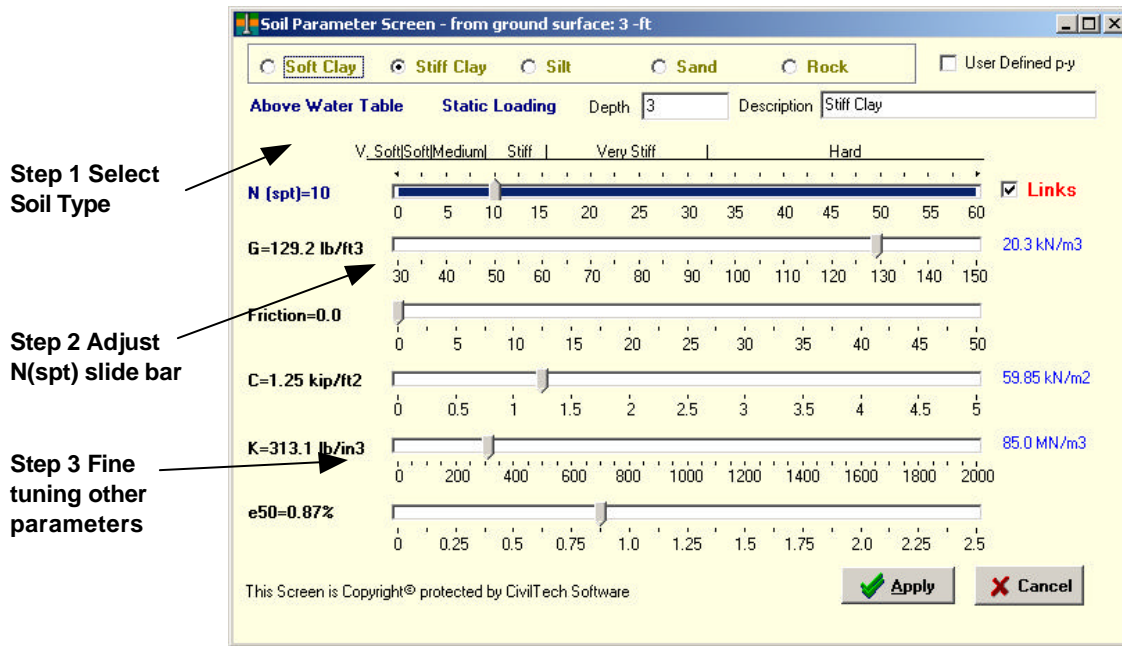

Figure 4-11. Soil Parameter Screen
You can input up to ten layers, if the GWT exist within a layer, you must break the layer into two layers at the water table location. The total unit weight should be use for soil above the GWT, but the buoyant unit weight should be used for soil below the GWT. **You should input all the data through the Soil Parameter screen shown in Fig. 4-11.**
**HINT: It is recommended to input all soil parameters on the Soil Parameters screen (Figure 4-11).**
The Soil Parameter screen (Figure 4-11) is for inputting or modifying the soil parameters. The program provides correlation between N value (SPT value) and the other parameters (refer to Chapter 8 for details). You can move the N sliding bar to modify all the parameters or move each bar individually.